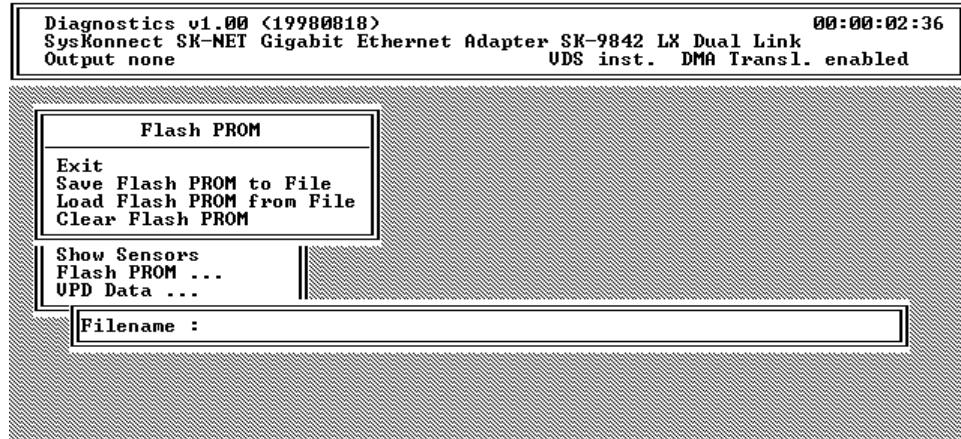

Fig. 15. Read/Write Flash PROM menu
3. Select the appropriate option or return to the main menu by selecting *Exit* (default option). If you select *Save Flash PROM to File* or *Load Flash PROM from File*, a dialog box will appear (see Fig. 15). Enter the name of the file in which the contents of Flash PROM are to be saved or from which the Flash PROM is to be loaded.